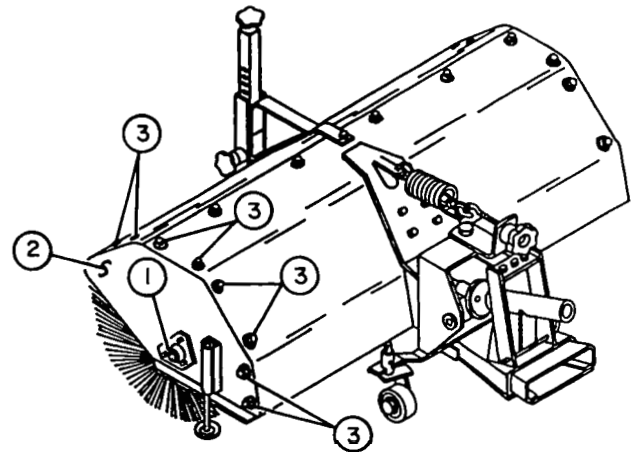

FIGURE 1
- e) Install the side plates with retaining cup over each shaft end. Secure side plates loosely with the two 1/2" x 1 3/4" bolts (fig.1, item 1), lockwashers and flatwashers.
- f) Install the eight 3/8" x 3/4" bolts (fig.1, item 3) and lockwashers securing each side plate. Torque all bolts.